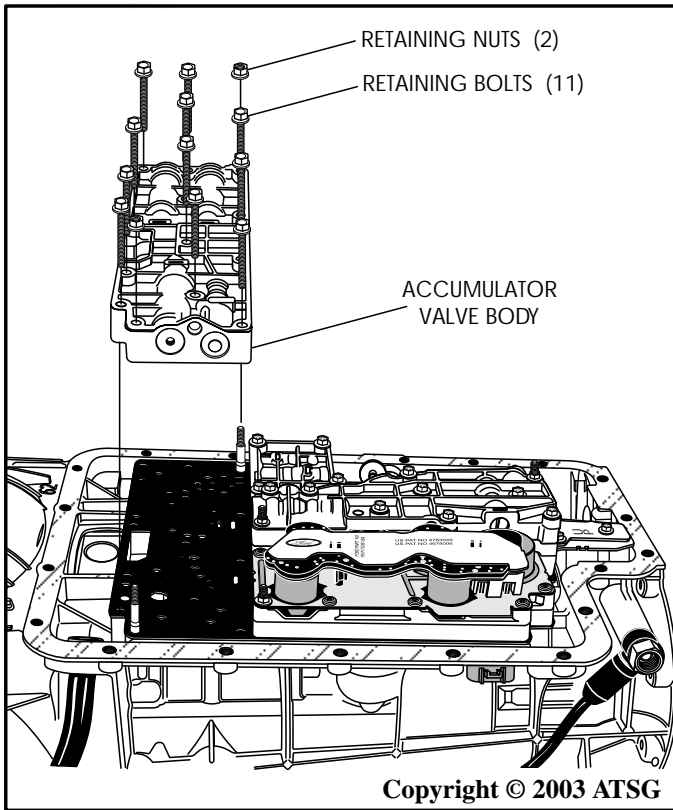

Figure 194
12. Install the accumulator valve body, as shown in Figure 194, install 11 retaining bolts and the two nuts and hand tighten at this time.